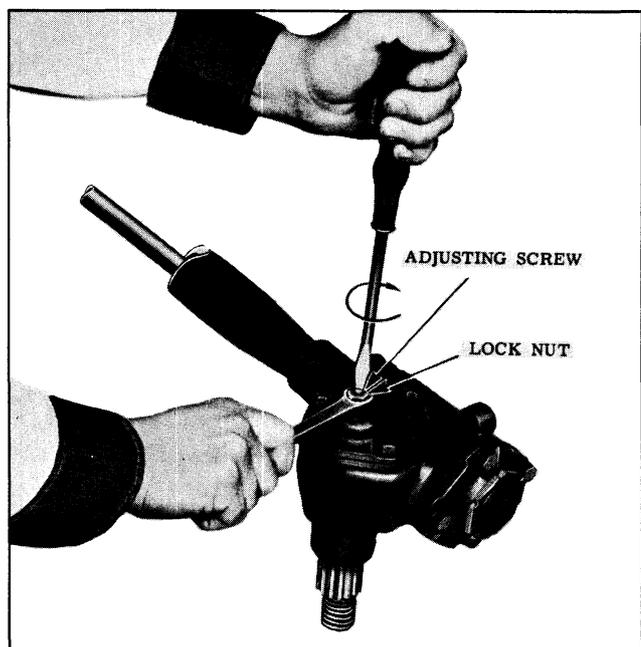

Fig. 5-4 Over-Center Adjustment
1. The worm bearing adjustment having been made, the pitman shaft adjusting screw should be tightened until a pull of 1-1/2 to 2 pounds at the steering wheel rim is required to turn the wheel through the center range. (See Fig. 5-4)